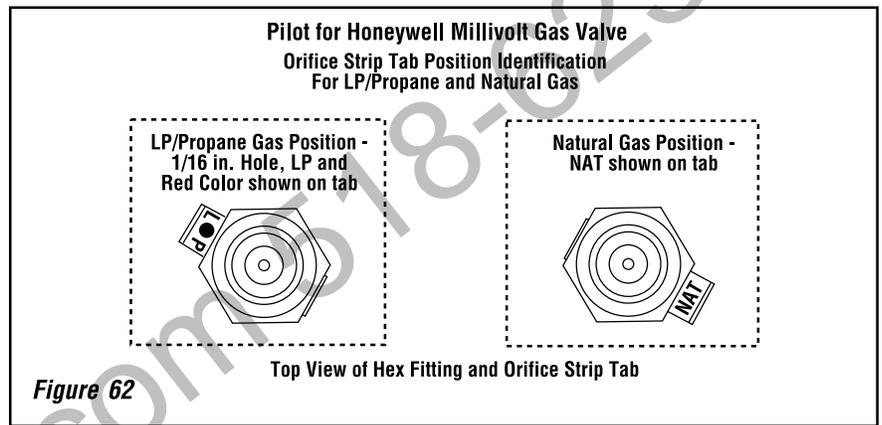

Figure 62
d. Push the orifice strip tab all the way against the hex fitting to align the appropriate gas type orifice (see **Figures 62 and 63**). The type of gas for which the pilot is set, is, the gas type shown on the tab.